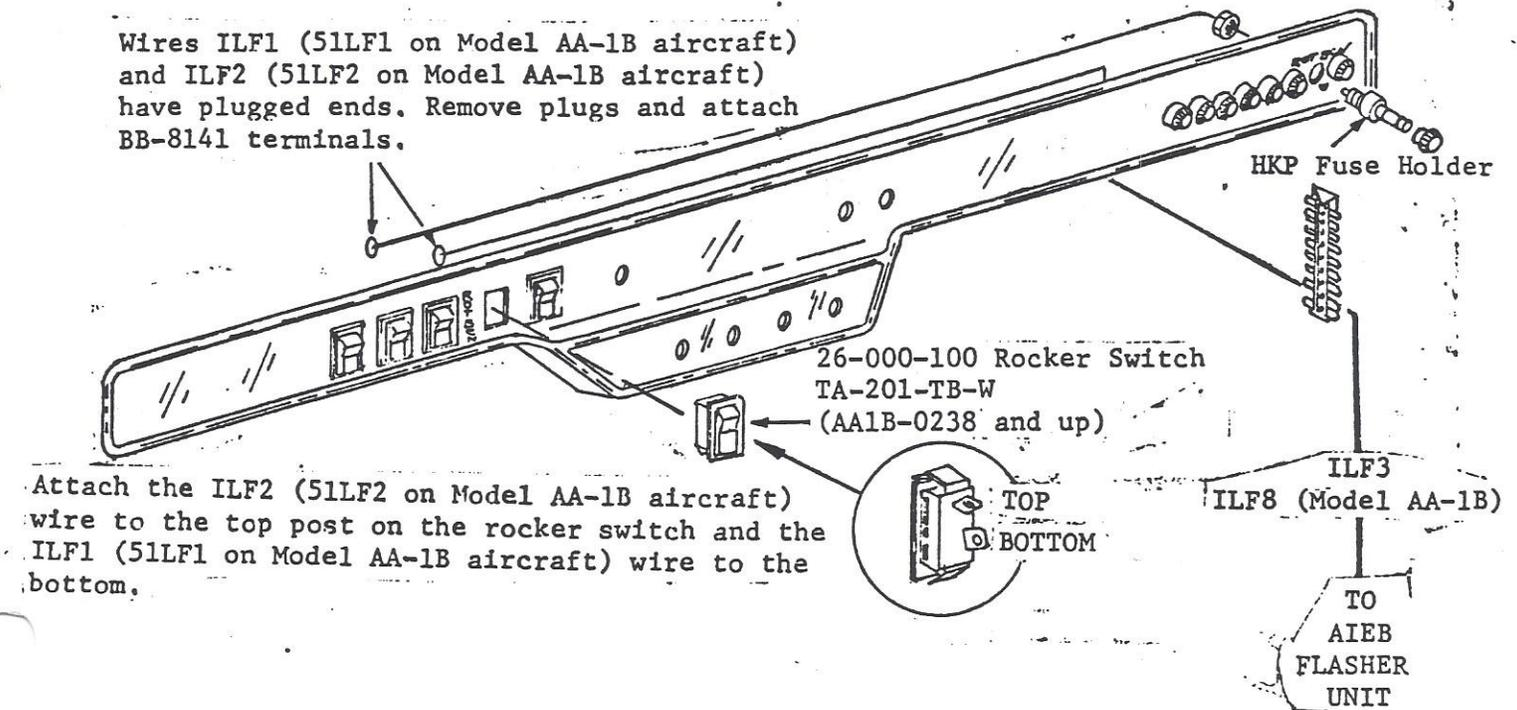

FIGURE 1: Switch and Fuse Holder Installation
1. On Model AA-1 and AA-1A aircraft, drill a 1/8 inch hole under ROT BCN (right lower instrument panel) exactly in line with the existing fuses. Using a small router or the side of a 1/4 inch drill bit, route out the hole to match the cut-out in rear panel (see Figure 1).